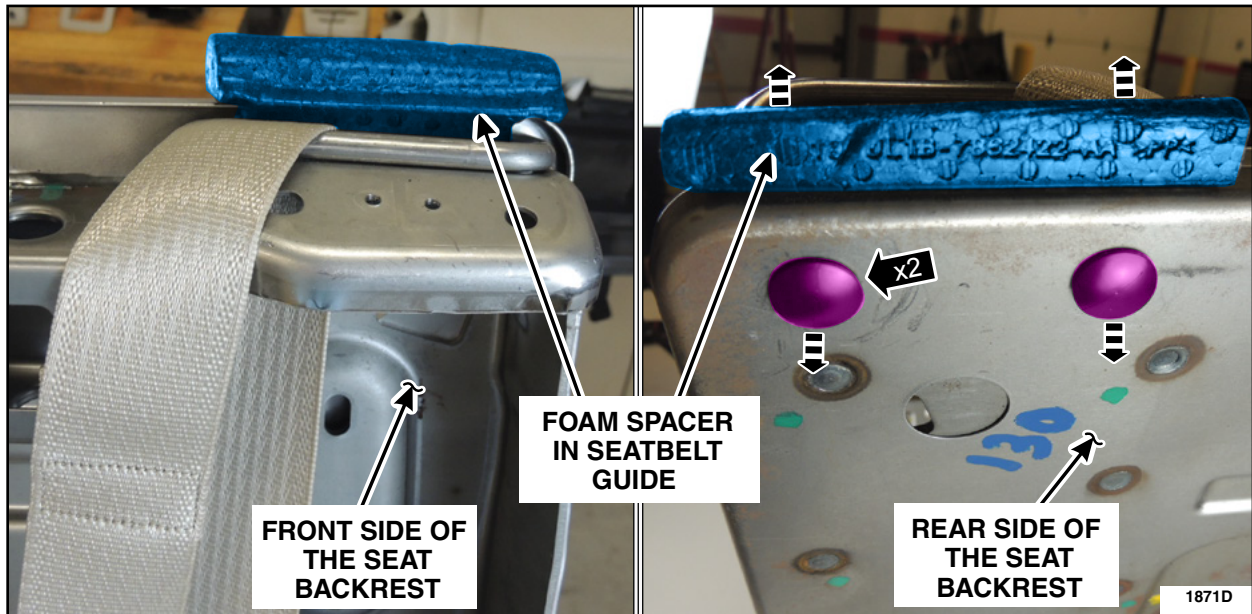

FIGURE 4
5. Remove the push pins and the foam spacer from inside the second row center seatbelt web guide. See Figure 4.
27. Install the seatbelt guide foam spacer and the push pins. See Figure 4.